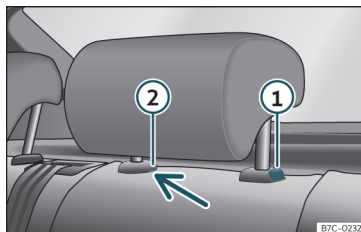

Fig. 103 Rear headrest: removal.
- Press button >>> **Fig. 103** ①, while simultaneously pressing on the security hole ② with a flat screwdriver a maximum of 5 mm wide, and remove the headrest.